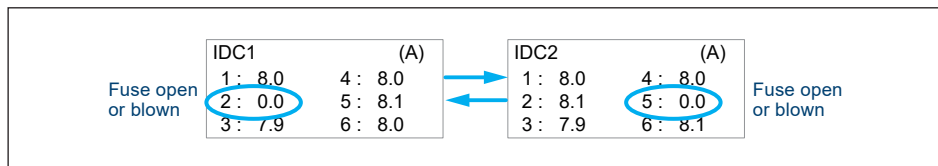

Figure 5-9: String monitor
1. Check “Power meter/string monitoring” page on the LCD display, to determine if any string current measurement is zero, which will most probably indicate a blown fuse. (**Figure 5-9**)